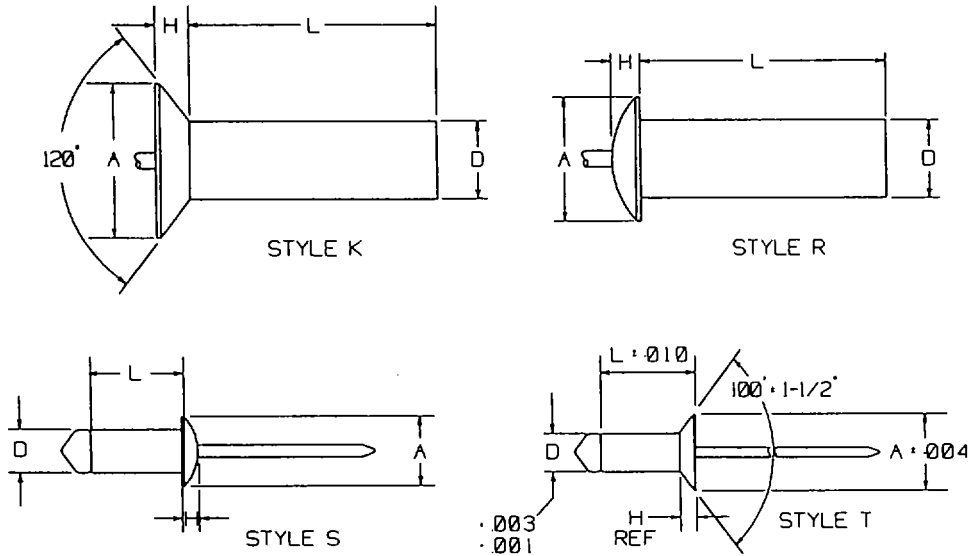

Figure 5-1. Blind Rivet Types
a. Blind Rivet Installation and Removal. Blind rivets are used in locations where only one side of the area to be worked on is accessible. Blind pop rivets must be used in the shelter honey comb panels since the hammering required to install conventional rivets would damage the material. The types of rivets used in the shelter are described in table 5-2 and shown in figure 5-1. When installing floor patches, countersunk head rivets (styles K and T) are preferred, but, dome head rivets (styles R and S) are an acceptable alternate. When installing interior wall patches, countersunk head rivets shall be used in any instance where dome head rivets will interfere with the installation of equipment. Closed end rivets (styles K and R) must be used for exterior repairs and floor repairs to prevent moisture and dirt from entering panels.